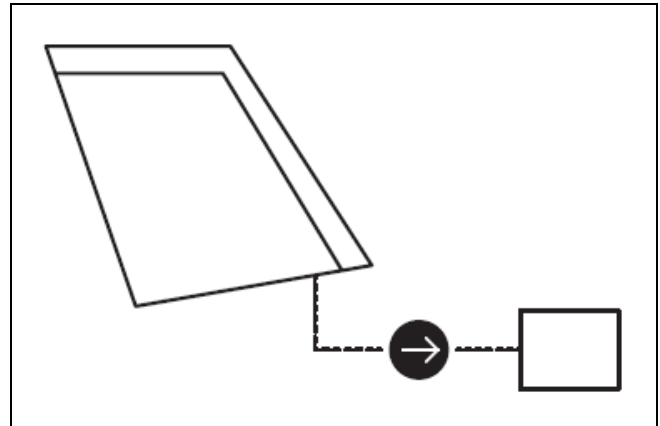

Figure 63
3. Run your cable to Awaken built-in junction box. See Figure 63.